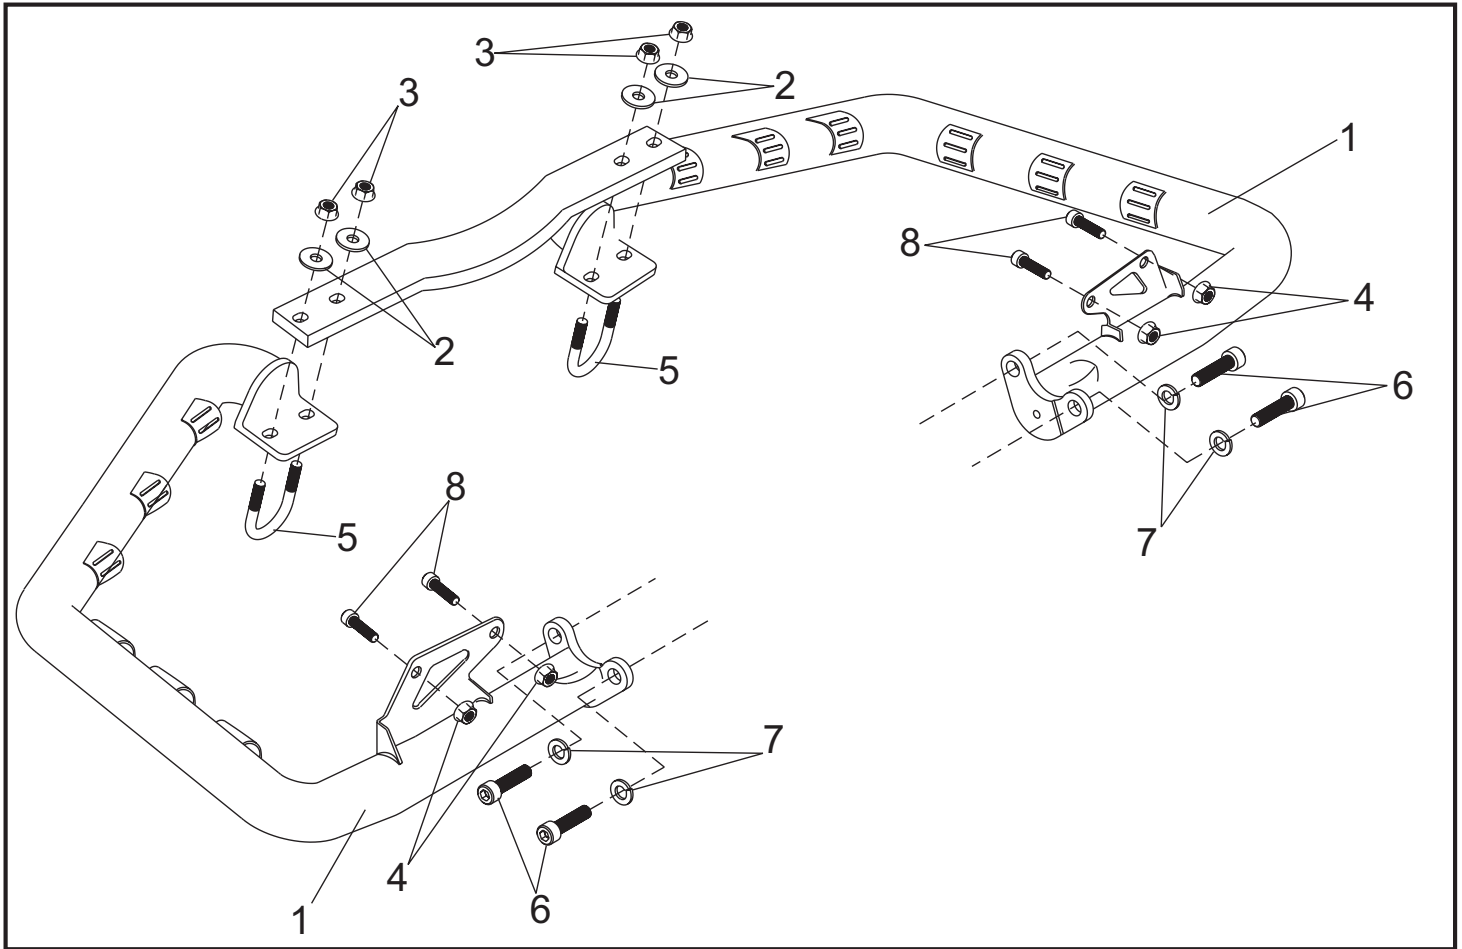

Fig. 8
**NOTE:** For bolt, washer and locknut locations and assembly order see Fig. 8.